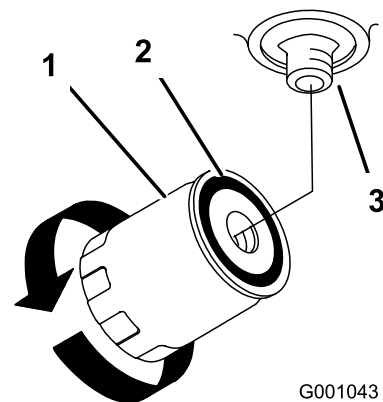

Figure 48
- When the hydraulic filter is full, turn the oil filter clockwise until the rubber gasket contacts the filter adapter, then tighten the filter an additional 1/2 turn (Figure 48).